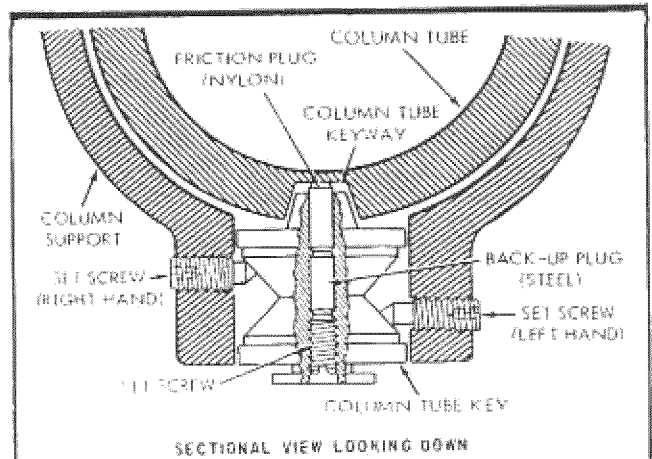
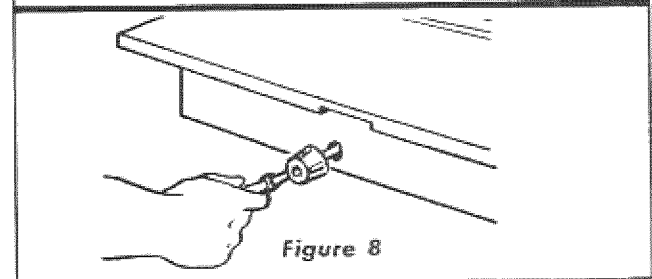

Figure 7
Figure 8
NOTE: Before attempting to adjust the column tube key, the function of this adjustment should be understood. Figure 7 shows a sectional view through the column tube support (looking downward) at this location. By
- Loosen set screw in center of column tube key. (See figure 7.)
- Loosen left-hand set screw 1/4 turn. (See figure 7.)
- Tighten right-hand set screw. (See figure 7.)
- Tighten left-hand set screw. (See figure 7.)
- Turn elevation crank to raise and lower radial arm. (See figure 8.) If too tight, loosen right-hand set screw (figure 7) slightly and check again for smooth operation. When correct, tighten left-hand set screw.
- Tighten set screw in center of column tube key (figure 7) until smoothest operation is obtained.